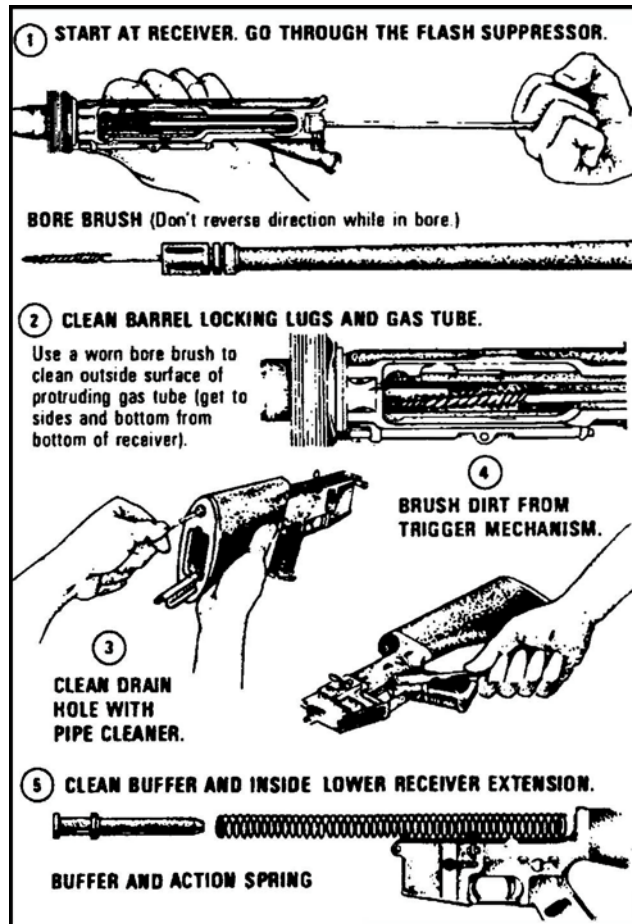

Figure 21. Cleaning the receivers.
- a. Clean the upper and lower receiver groups using CLP to remove powder fouling in the upper receiver (Figure 21).